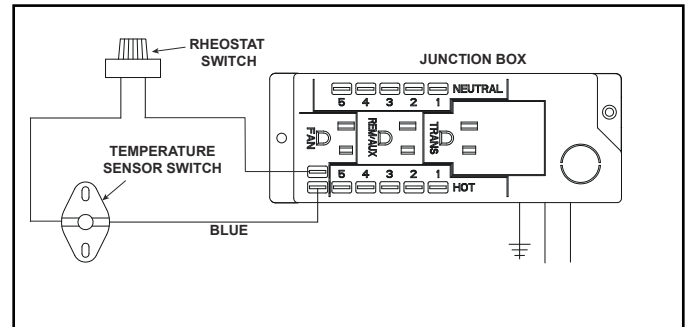

Figure 8.5 Detail of Fan Wiring with Rheostat
- Connect temperature sensor switch wire and rheostat switch wires to junction box as shown in Figure 8.5.